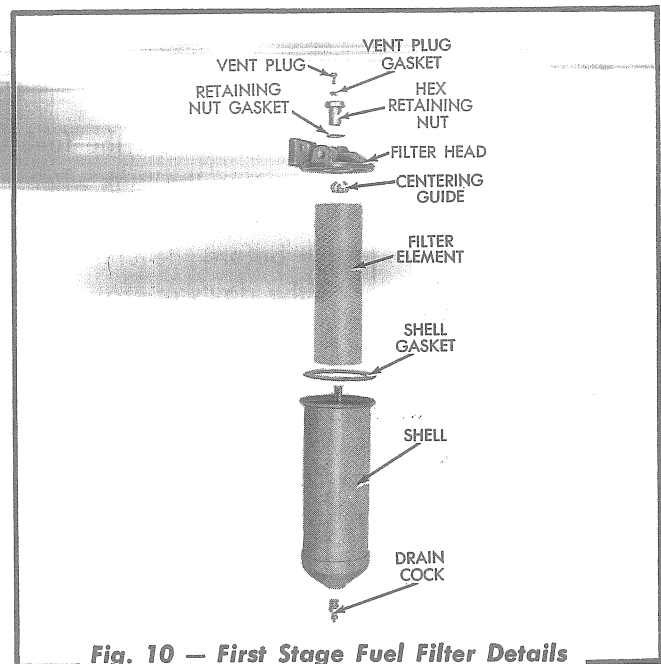

Fig. 10 — First Stage Fuel Filter Details (Tractors Prior to Serial No. 4001)
3. To Replace First Stage Fuel Filter Element (Figs. 10 and 11).